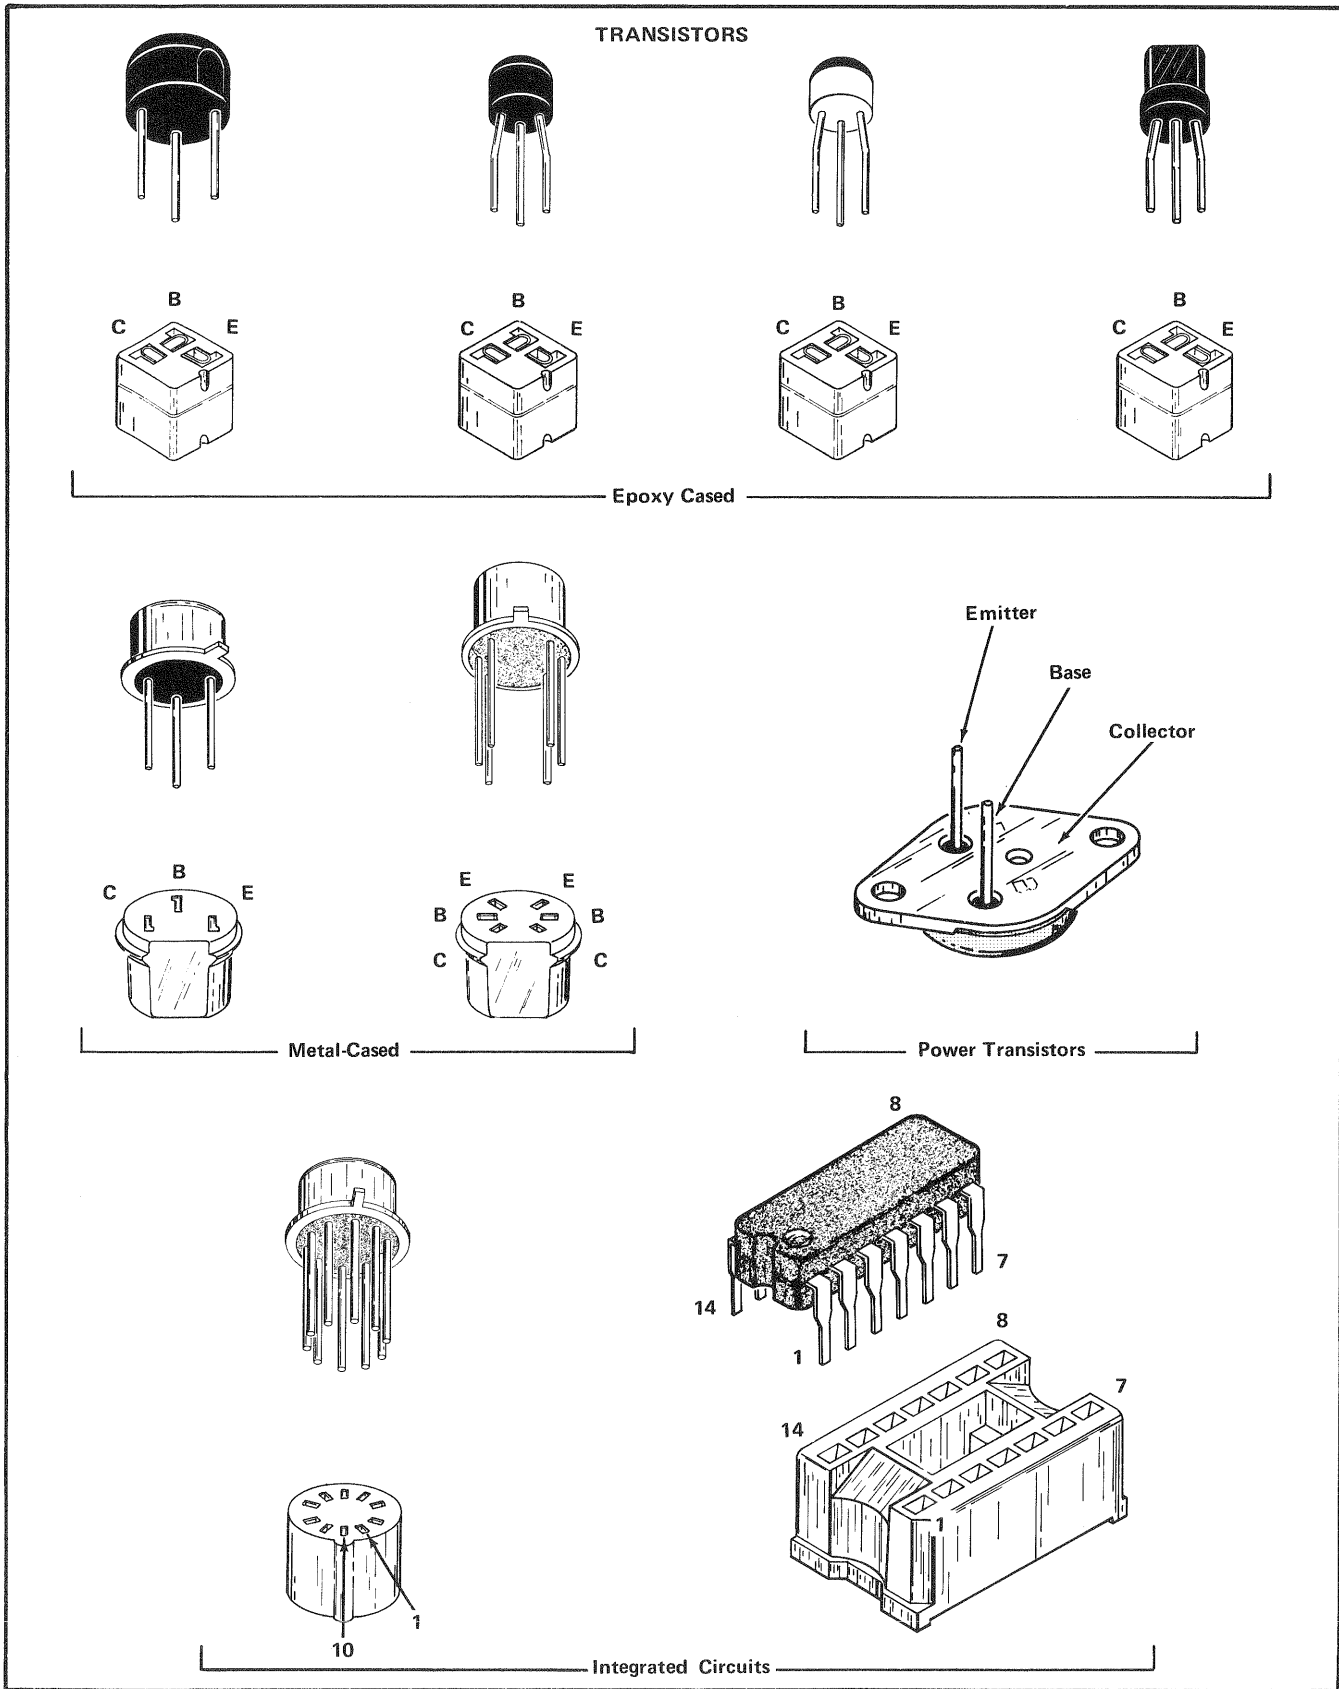
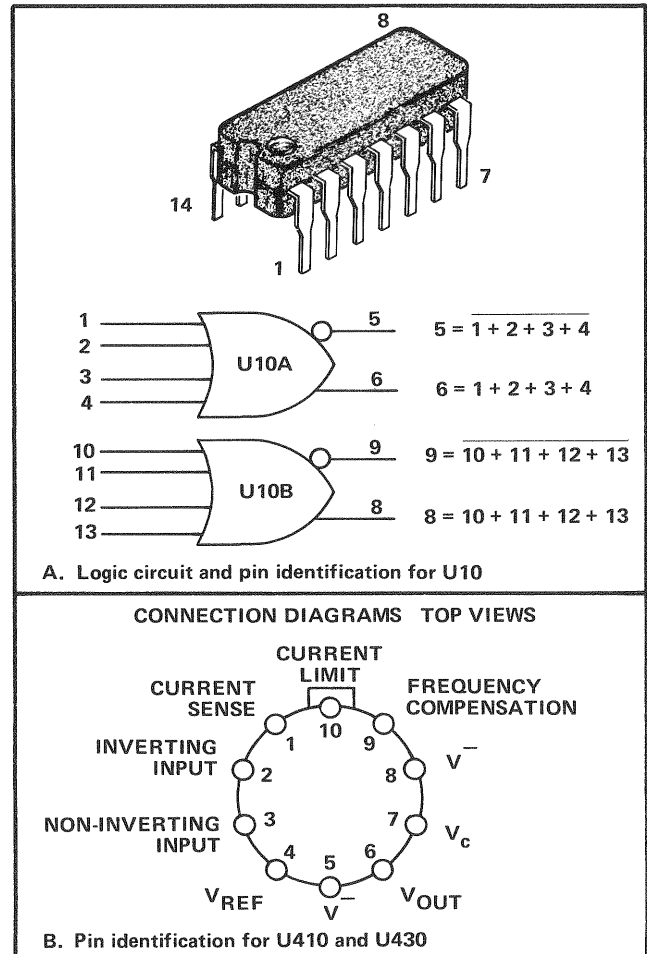

Fig. 4-5. Electrode configuration for socket mounted transistors.
Fig. 4-6. Lead configuration and equivalent circuits for IC's used in the 2101.
Transistor and Integrated Circuit Electrode Configuration. Lead identification for the transistors and IC's are shown in Fig. 4-5 and Fig. 4-6.
4. Be sure the component is inserted properly in the socket (see Fig. 4-5).
Integrated Circuit (IC) Checks—Integrated circuits are most easily checked by direct replacement. When substitution is impossible, check input and output signal states as described in the circuit description and on the diagram. Lead configuration and data for the IC's used in this instrument are provided by Fig. 4-5 and Fig. 4-6.